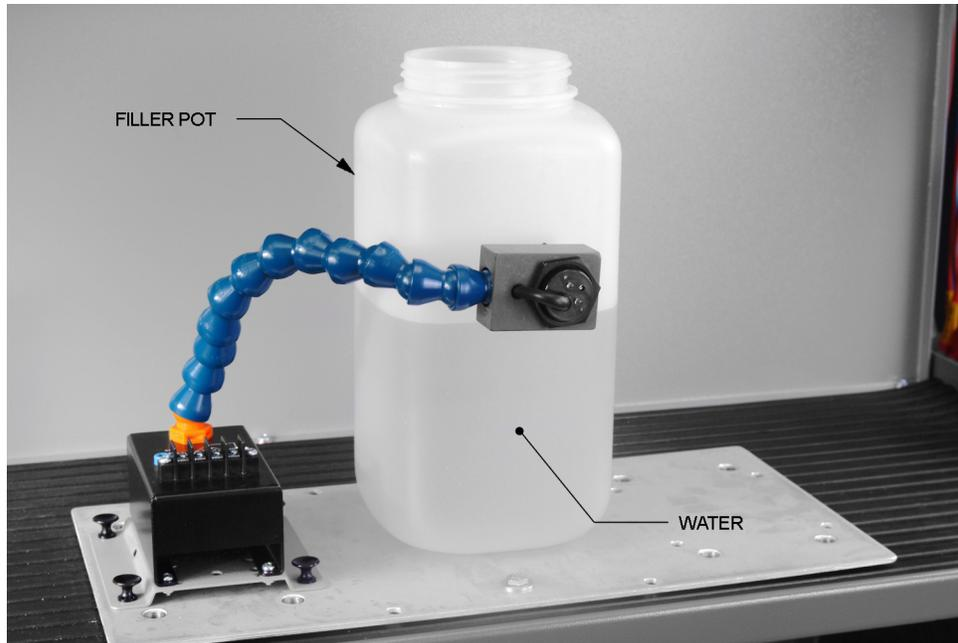

Figure 22. Liquid detection using the Capacitive Proximity Switch.
10. Fill the pot with water to mid-height and position it as shown in Figure 22.
11. Place the sensing face of the Capacitive Proximity Switch against the filler pot, as shown in Figure 22. Make sure that the bottom of the sensing face is at least 6 mm (1/4 in) above the water level.